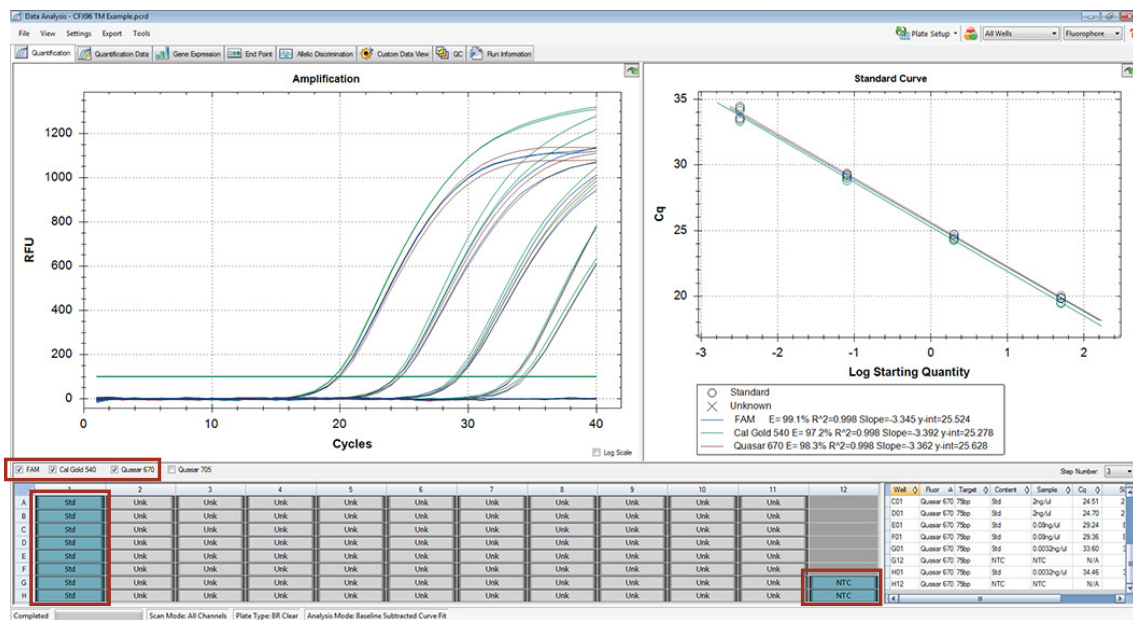

Figure 13. The entire Quantification tab in the DNA Analysis window.
2. Highlight only the Standards and NTCs in the well selector map (Figure 13). These samples will now be displayed on the Standard Curve chart.